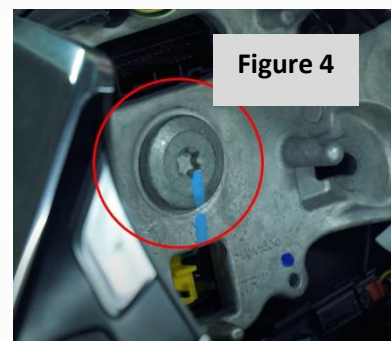

Figure 4
4. Unfasten the T50 Torx head large bolt in the center of the steering wheel core (**Figure 4**).
22. Reinstall the large T50 Torx head bolt into the corresponding hole with a bit of Blue Loctite® or similar thread locker (*Step 4, Figure 4*). Torque to 33 Ft-lbs.